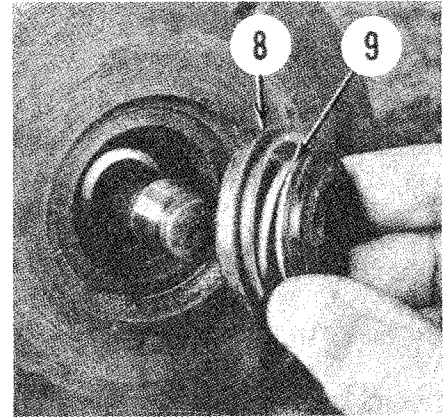
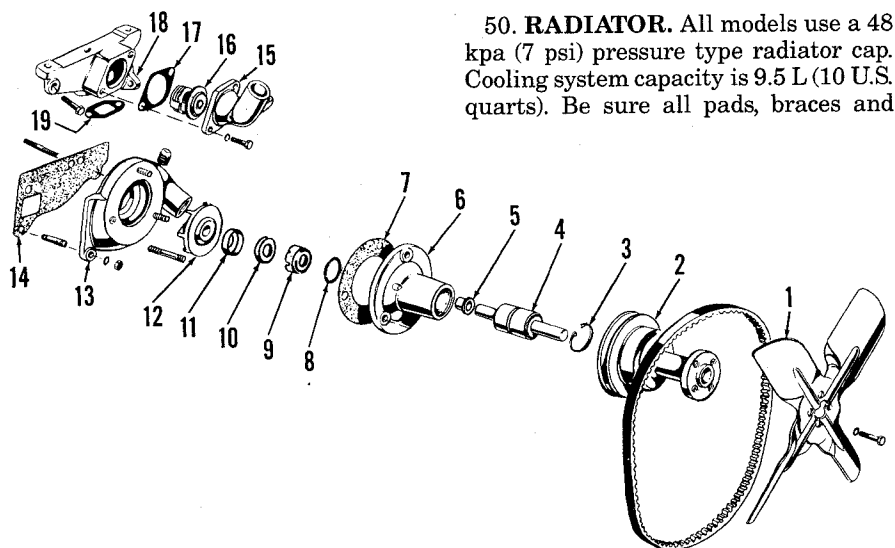
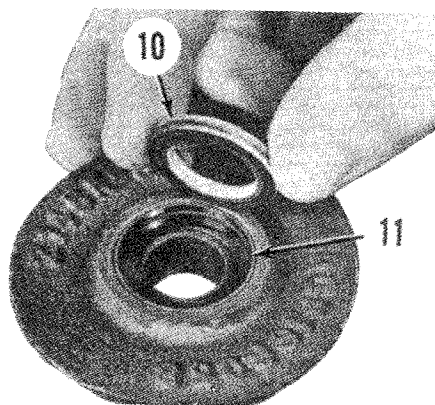

Fig. 52—The gasket (8) should be in position around seal as shown when installing the spring seal (9).
Fig. 51—Exploded view of water pump assembly used on gasoline models.
Fig. 53—Install the ceramic collar (10) into rubber retainer (11) with the three holes in collar toward the impeller.
Remove pulley (2—Fig. 51) using a puller attached to fan mounting hub. Remove snap ring (3), then press shaft and bearing (4) toward front out of impeller (12) and pump body (6).
To assemble, install slinger (5) onto short end of shaft (4), then press the shaft and bearing assembly into body (6) until bearing bottoms in bore. Install snap ring (3). Coat outside of seal (9) with sealing compound, position gasket (8) around seal, then install in housing with carbon face toward impeller as shown in Fig. 52. Install the rubber collar retainer (11—Fig. 51) in bore of impeller (12), then insert ceramic collar (10) as shown in Fig. 53. Be sure side with three holes is toward impeller. Press impeller onto shaft with open side of blades out until